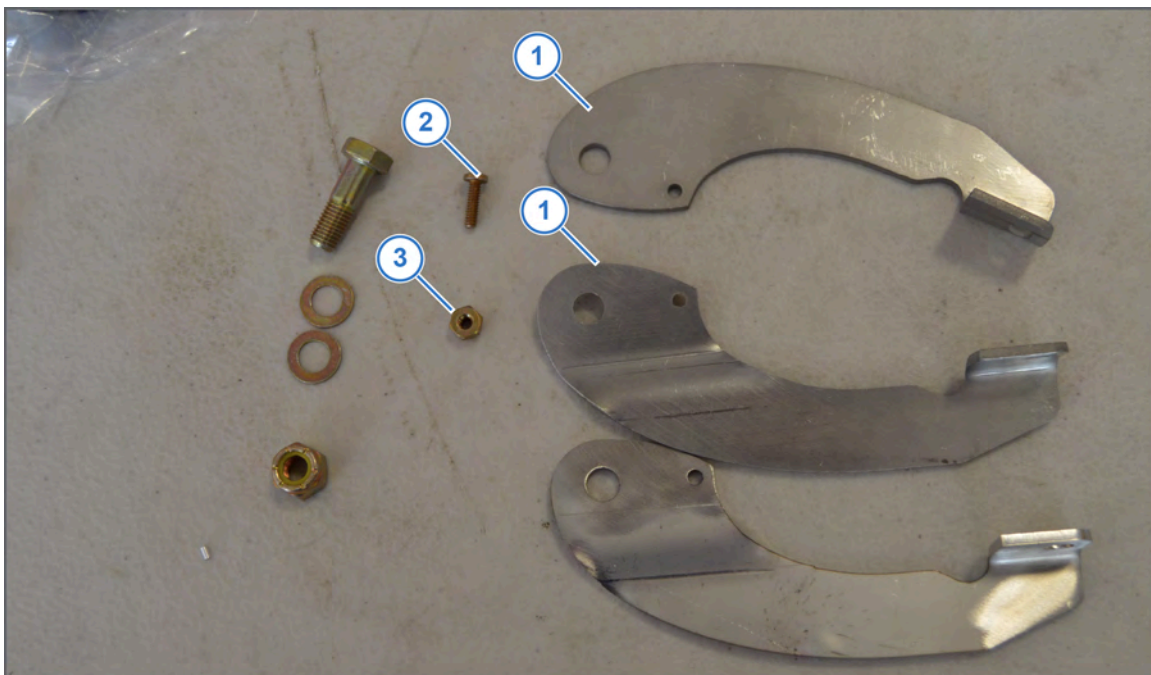

Figure 10: Boom Hanger Tab Assembly
20. Put the two boom hanger tab pieces (Figure 10, Item 1) together with the holes lining up.
21. Install the 6-32 x 1/2 screw (Figure 10, Item 2) and nut (Figure 10, Item 3) into the boom hanger tabs so that the nut will be against the boom hanger.
See Figure 10